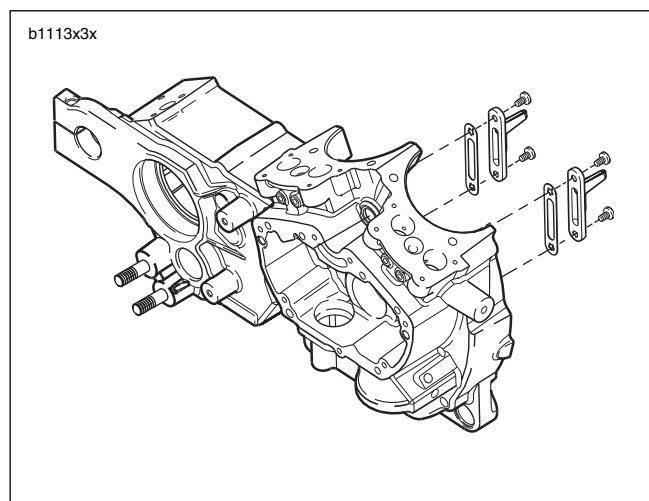

Figure 3-133. Piston Oil Jet Assemblies
1. See Figure 3-133. Remove two TORX screws from each piston jet assembly to free piston jets from right crank-